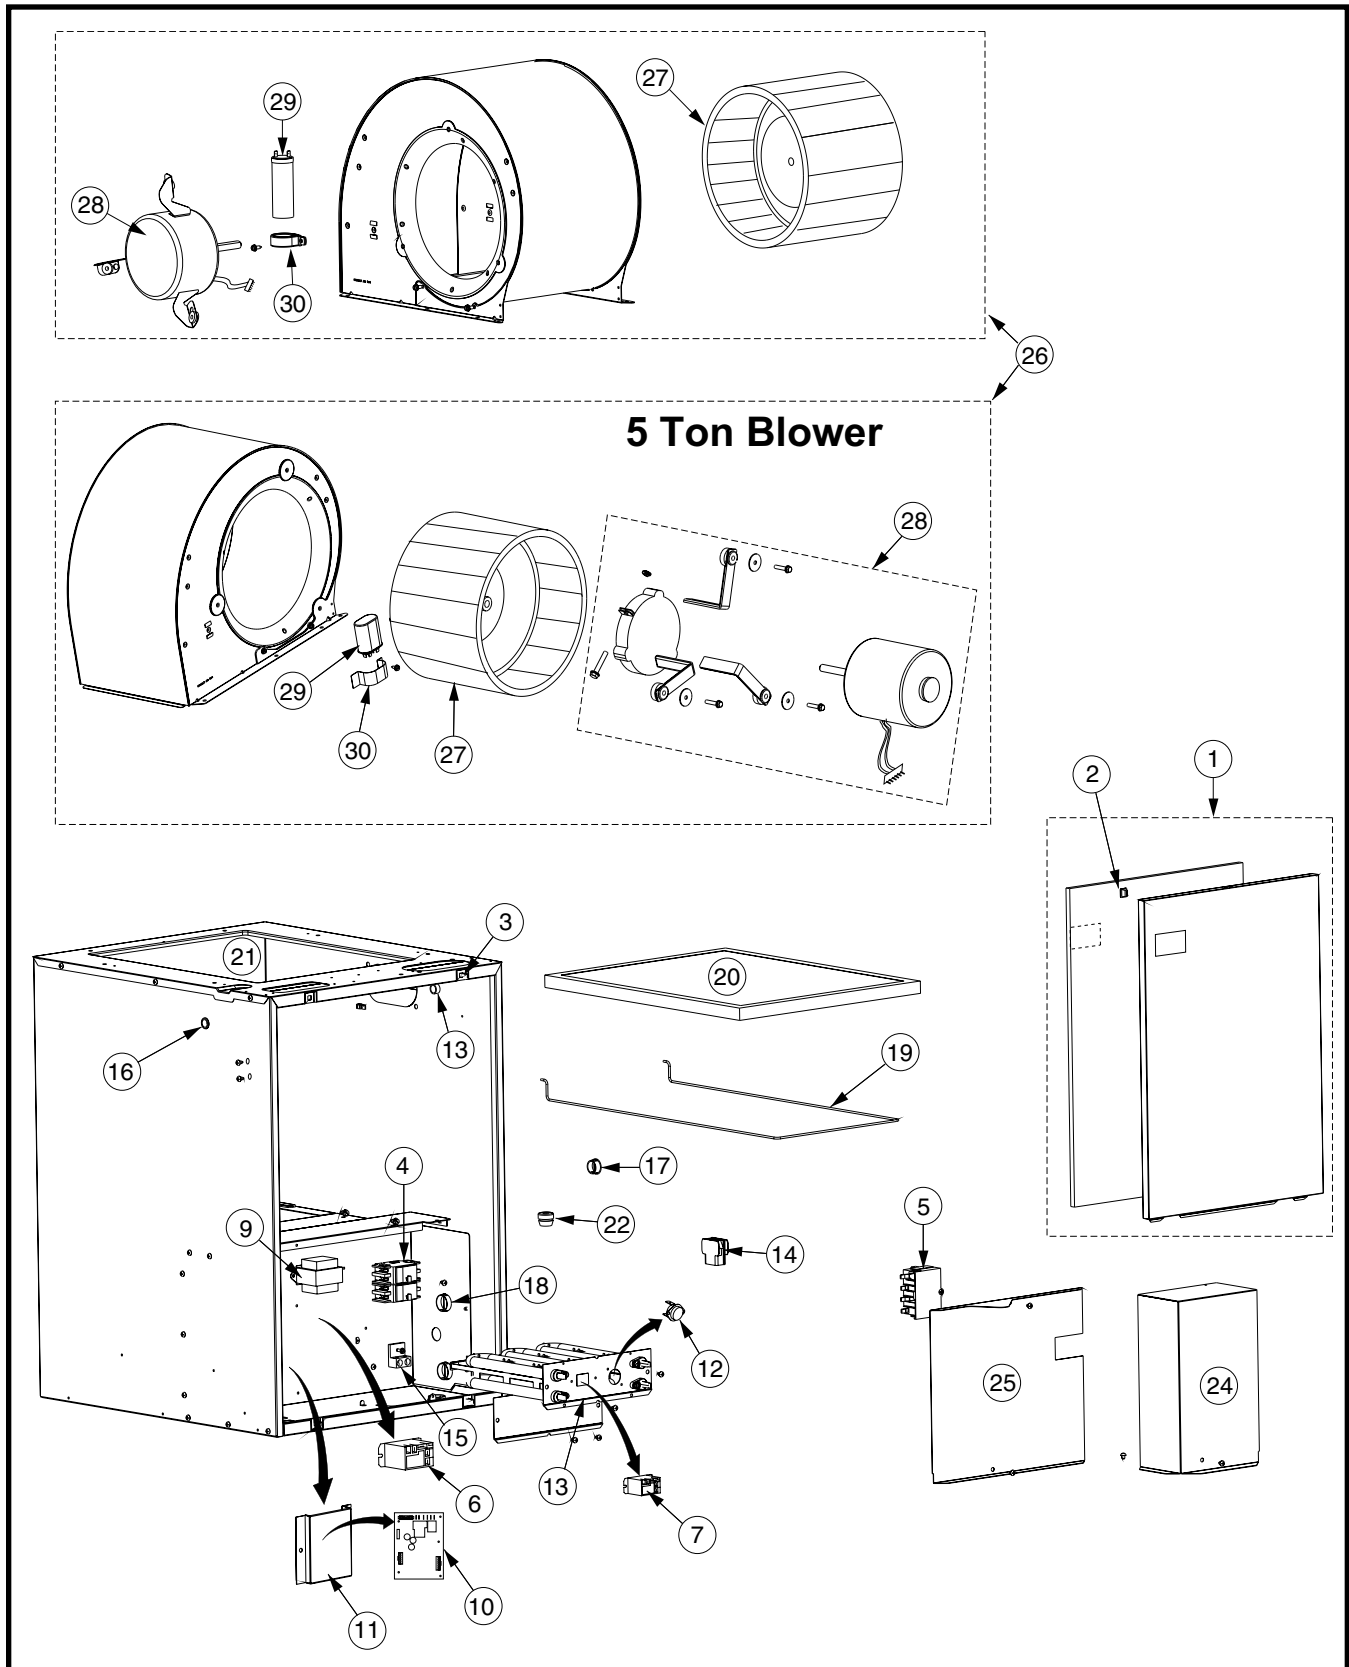

Figure 19. E4 Furnace Components
It is recommended that the line voltage (240 VAC) to the furnace be supplied from a dedicated branch circuit containing the correct fuse or circuit breaker for the furnace. For minimum circuit ampacity and maximum over-current protection, see Table 6. See unit wiring diagrams (Figure 23, Figure 24, Figure 25, & Figure 26) for wiring details. Electrical components are shown in Figure 19 (page 16). Supply circuit requirements are listed below:
6. Connect service ground wire(s) to grounding lug(s) provided. One ground is required for each supply circuit used. See Figure 19 (page 16).